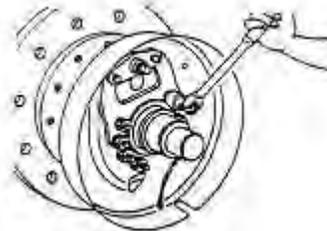

figure 2-21
(6) Disassemble the E baffle ring to fast the brake dragline from brake device motherboard. Then disassemble brake device motherboard bolts, and disassemble brake device motherboard from drive axle. See figure 2-21